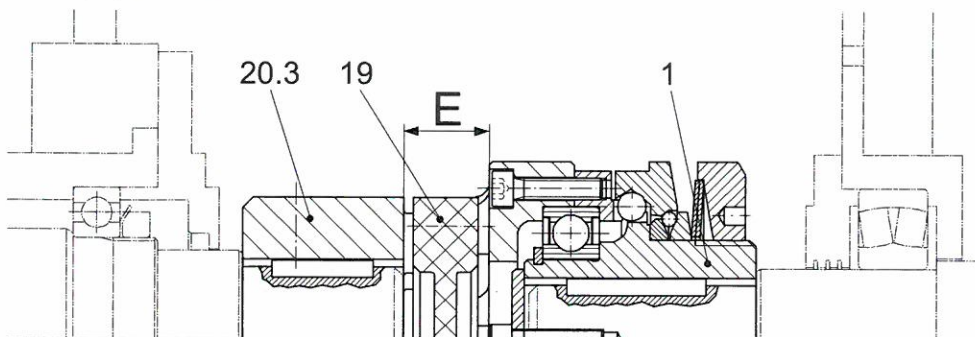

Fig. 4 (Type 494.624._)
Joining the Clutch Hubs (1/20) EAS[®]-Compact[®] Type 494._4_ (Fig. 4)
After the clutch hubs have been joined, no unpermitted high axial pressure should be placed on the elastomeric element (19). **Please keep to the distance dimension "E" acc. Fig. 4 and Table 6!**